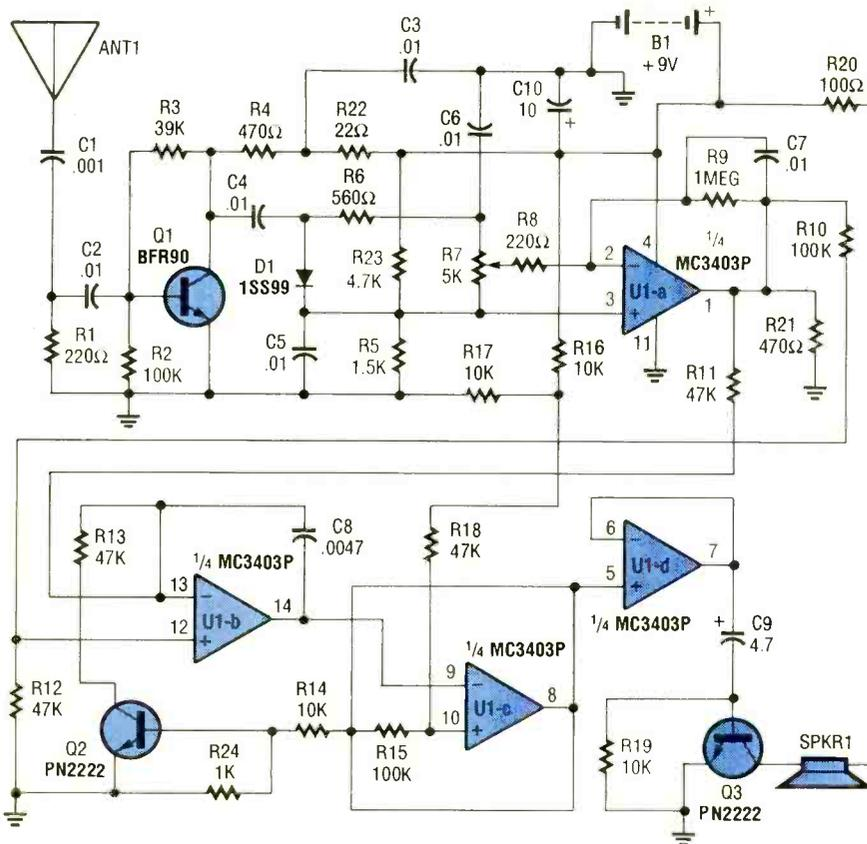

Fig. 1. The Countersurveillance Monitor is built around U1 (an MC3403P quad op-amp), three transistors (Q1-Q3), and a few support components.
**Circuit Description.** Figure 1 shows a schematic diagram of the Countersurveillance Monitor. The circuit, built around a single integrated circuit (U1, an MC3403P quad op-amp), three transistors (Q1-Q3), and a few support components, receives its input from the
**The No-Frills Circuits.** The basic remote-control transmitter is a very simple device, but with a little twist, as you'll soon see. At the heart of the circuit is a 555 oscillator/timer wired for astable operation (see Fig. 1). Its timing components are R1, R2, and C1. And now for the twist: By using the special voltage-control pin (pin 5), the timer can be